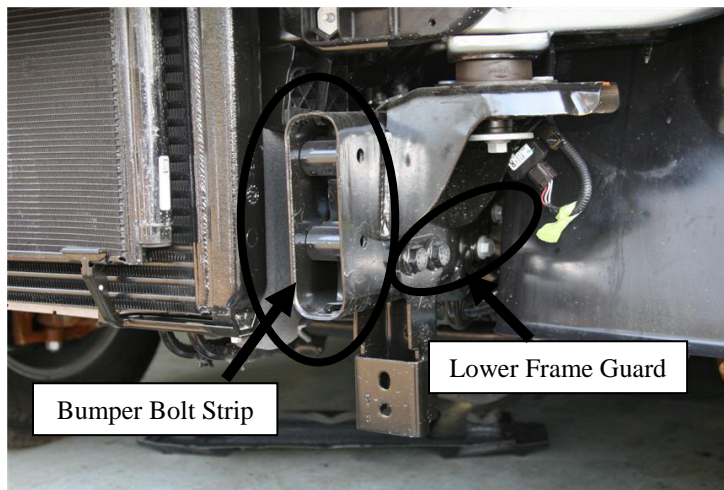

Figure 3
8. Remove four (4) 18mm nuts from the lower frame guard and two (2) bumper bolt strip holding the OEM bumper to the frame rails on each side. **(Figure 3)**